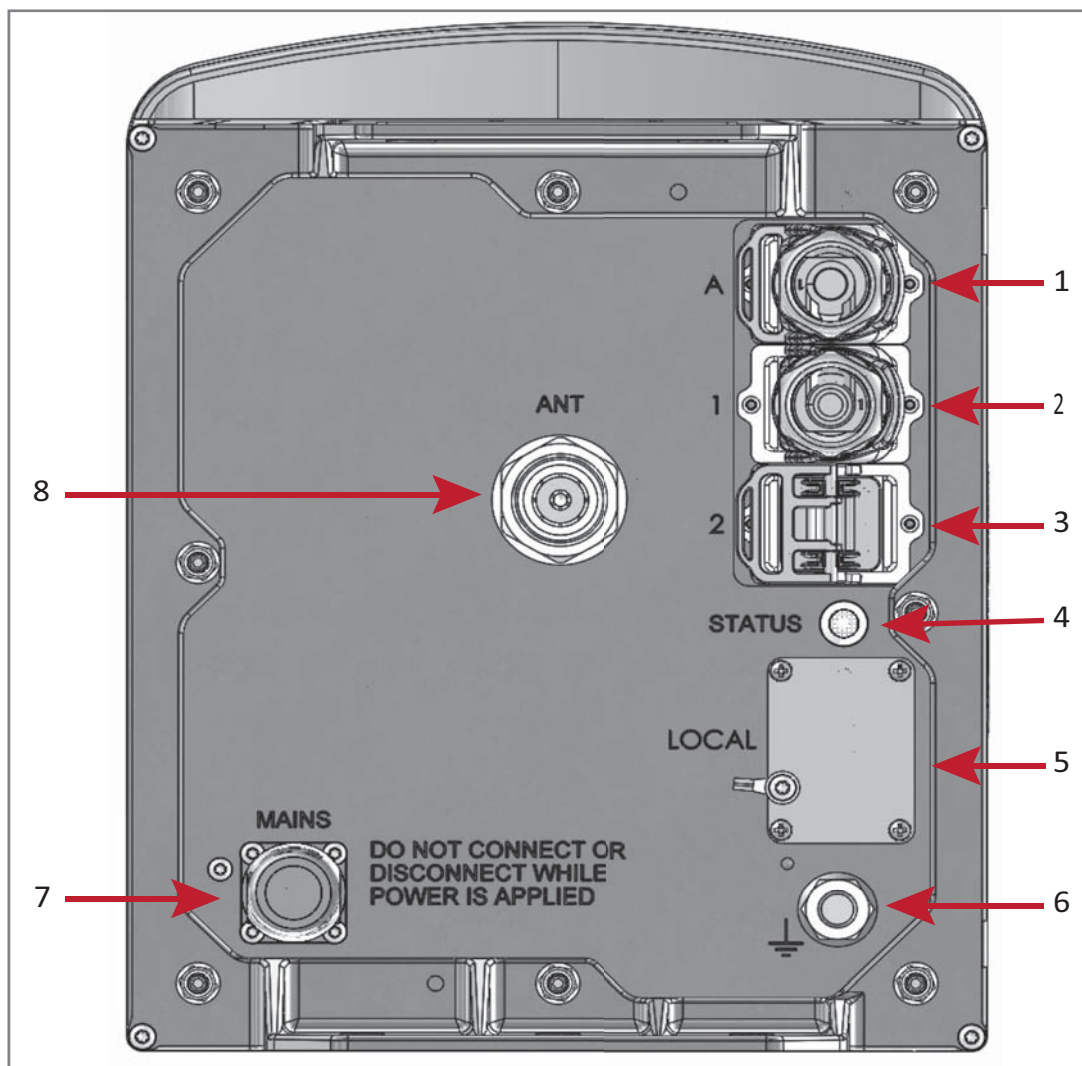
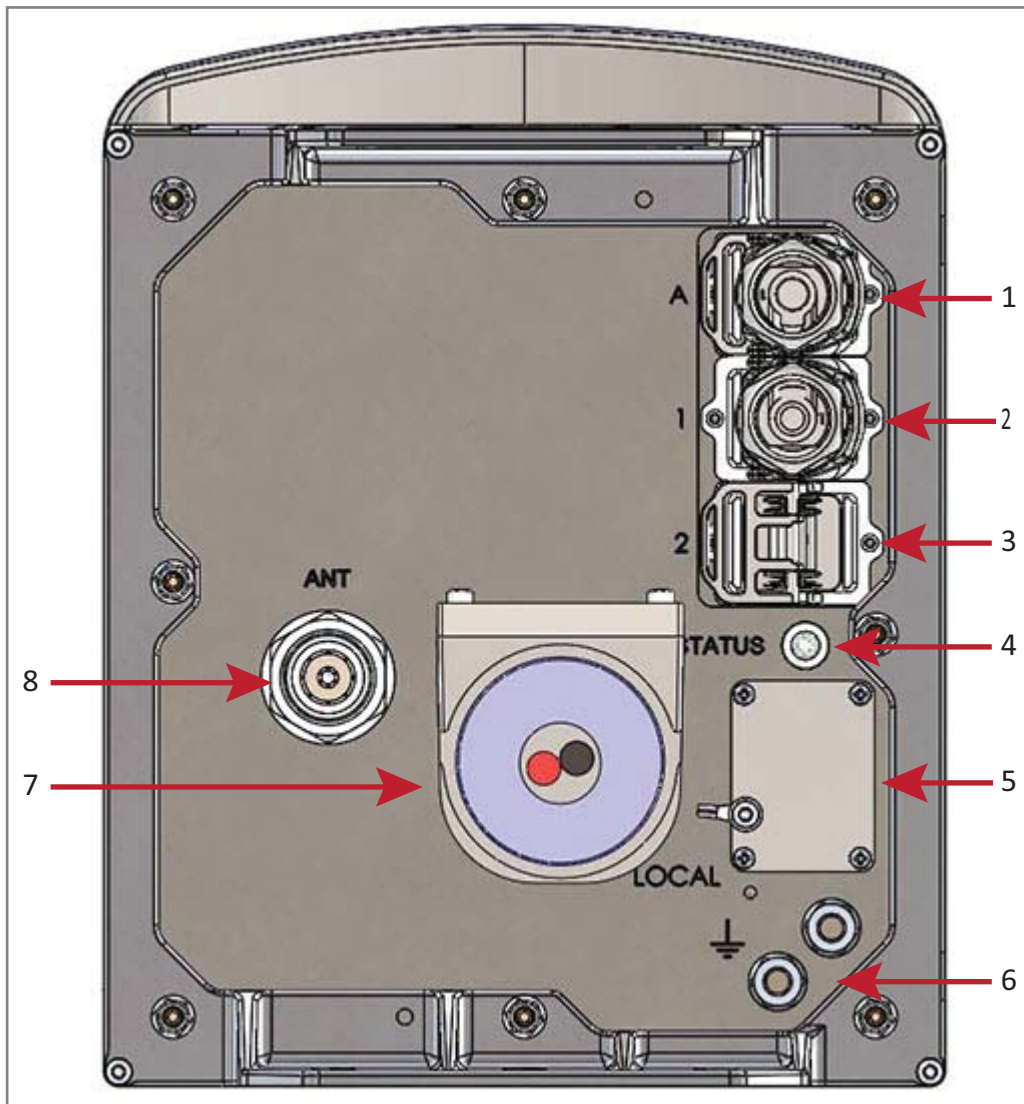
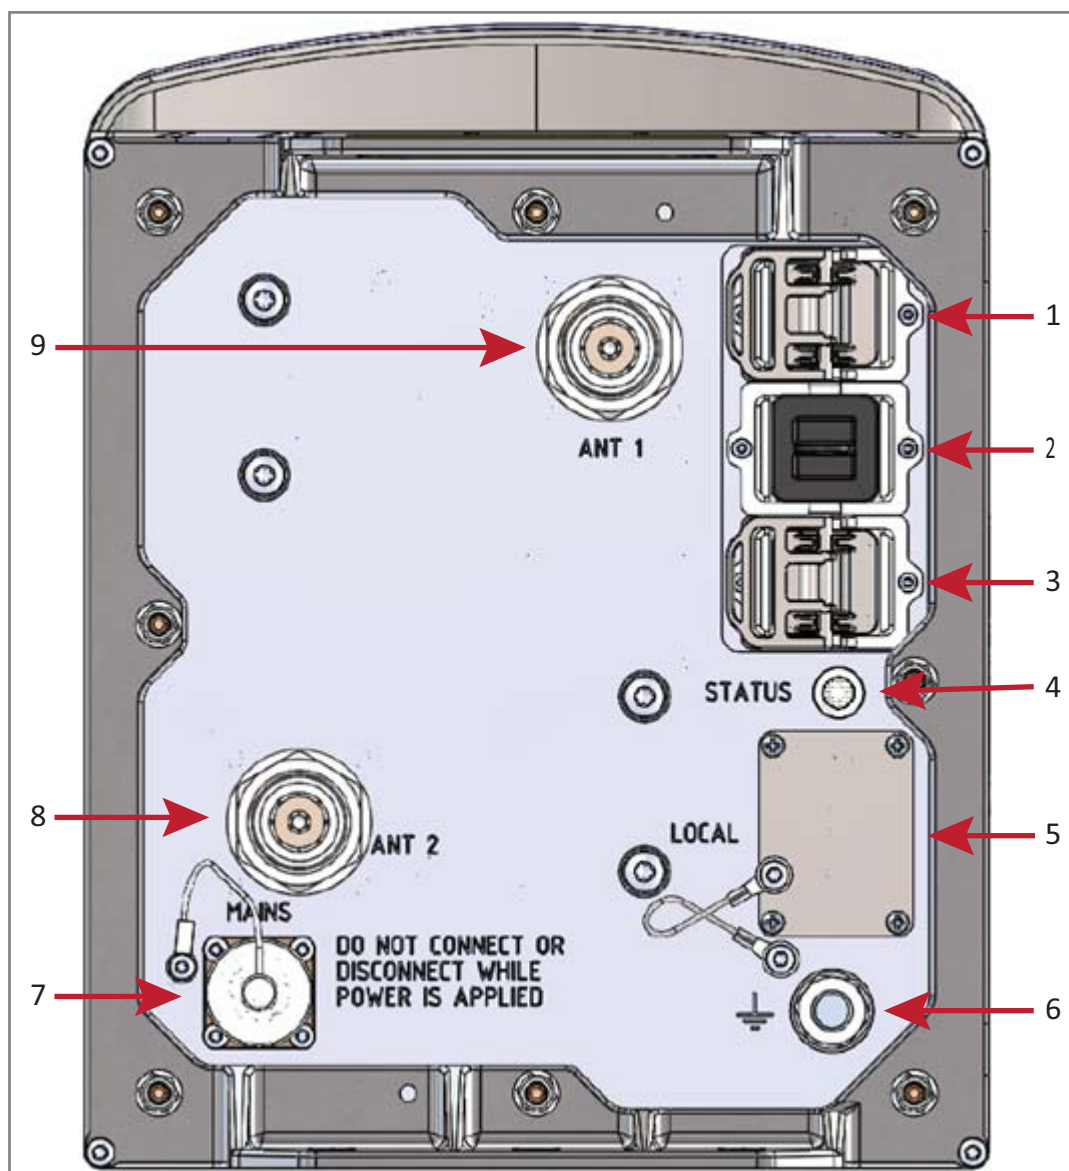
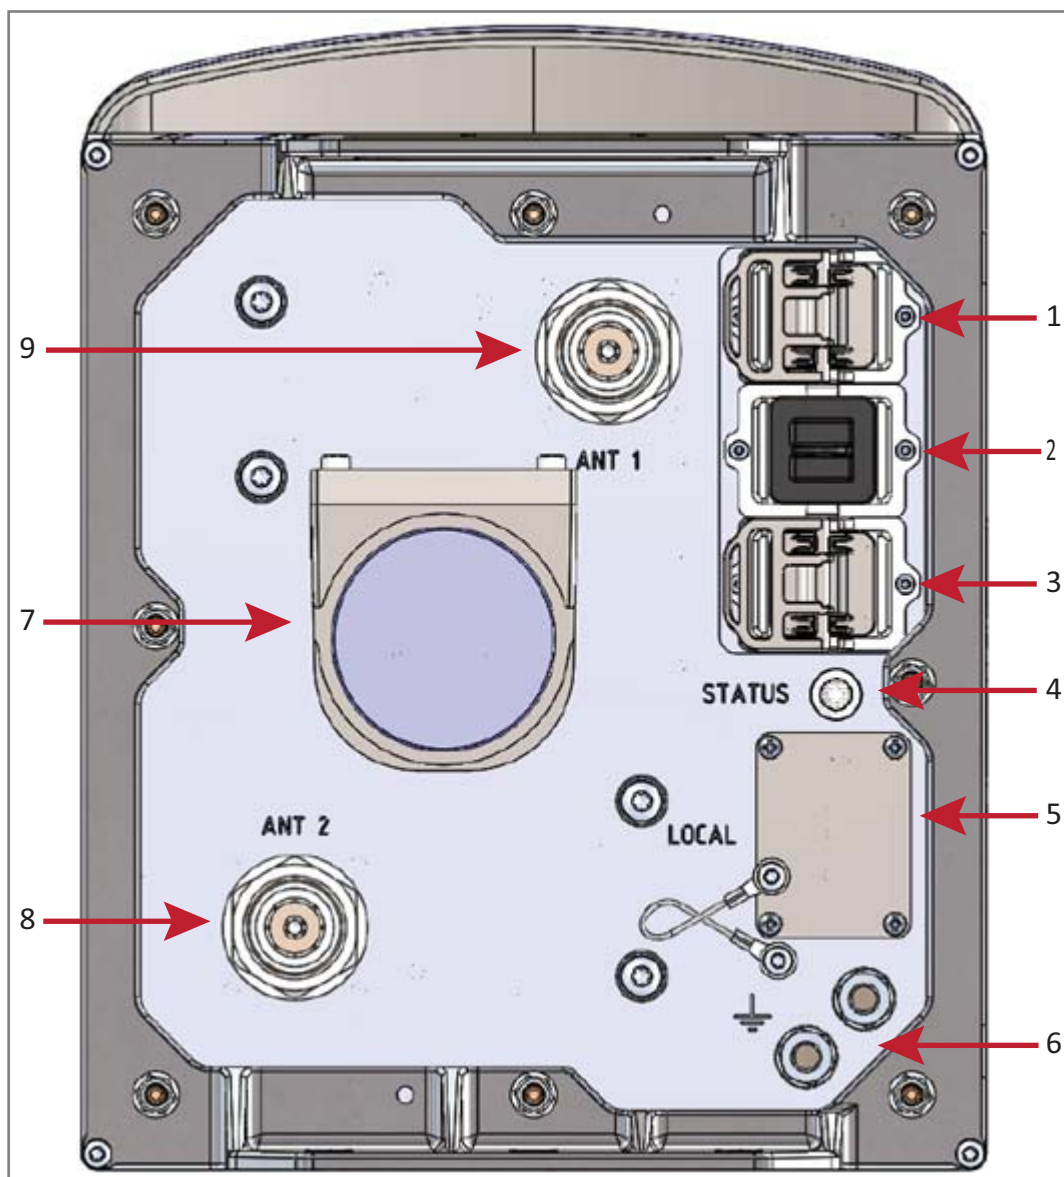

Figure 2. Location of Connectors and LED on AC Version with One Antenna Connector
Figure 3. Location of Connectors and Status LED on DC Version with One Antenna Connector
Figure 4. Location of Connectors and Status LED on AC Version with Two Antenna Connectors
Figure 5. Location of Connectors and Status LED on DC Version with Two Antenna Connectors
- Figure 2 shows the connectors on an AC version of the CAP H that has one antenna connector.
- Table 2 on page 7 maps the callouts in Figure 2 and Figure 3 on page 8 and describes the connectors and STATUS LED.
- Figure 3 on page 8 shows the connectors on a DC version of the CAP H that has one antenna connector.
The “REF #” column in Table 2 refers to the callouts in Figure 2 on page 6 and Figure 3 on page 8.
- Figure 4 shows the connectors on an AC version with two antenna connectors.
- Table 3 on page 10 maps the callouts in Figure 4 and Figure 5 on page 11 and describes the connectors and STATUS LED.
- Figure 5 on page 11 shows the connectors on a DC version with two antenna connectors.
The “REF #” column in Table 2 refers to the callouts in Figure 2 on page 6 and Figure 5 on page 11.